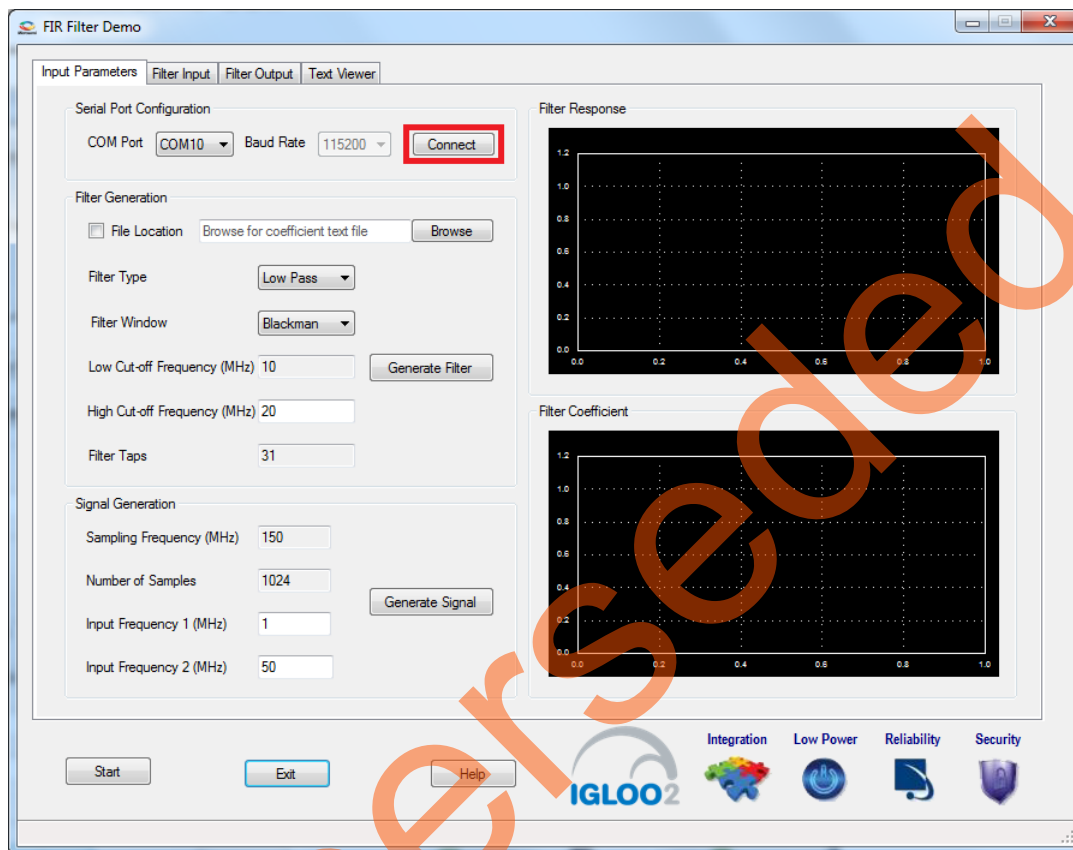

Figure 10 • Serial Port Configuration
(\VGL2_FIR_FILTER_DF\GUI\GL2_FIR_Filter.exe). The FIR Filter Demo window is displayed, refer to Figure 10.
2. **Serial Port Configuration:** The COM port number is automatically detected and the baud rate is fixed at 115200. Click **Connect**. Refer to Figure 10.